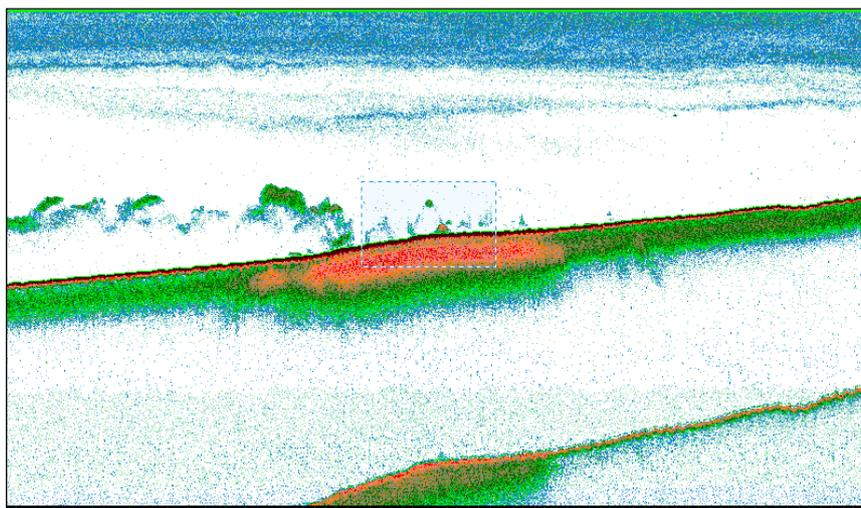
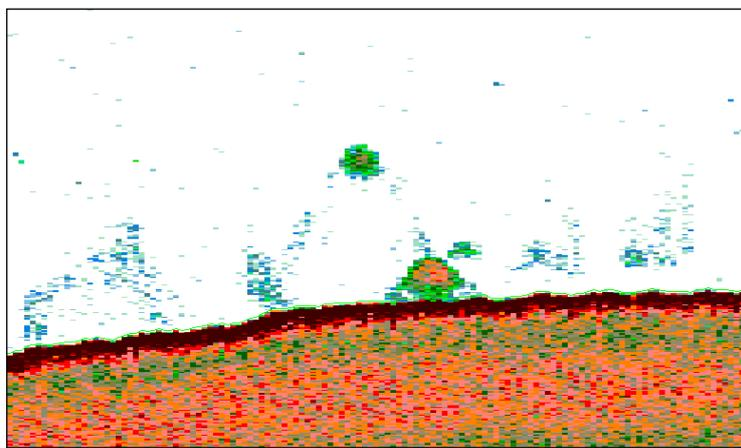

Figure 19: Echogram showing selection to be zoomed.
Figure 20: The Filesset1: SV pings echogram zoomed in over selection shown in Figure 19.
27. Adjust your echogram window until you see the view in Figure 19.
28. Use the Rectangle tool  on the toolbar to select the region shown in Figure 19, and zoom in. The echogram should resemble the image in Figure 20.